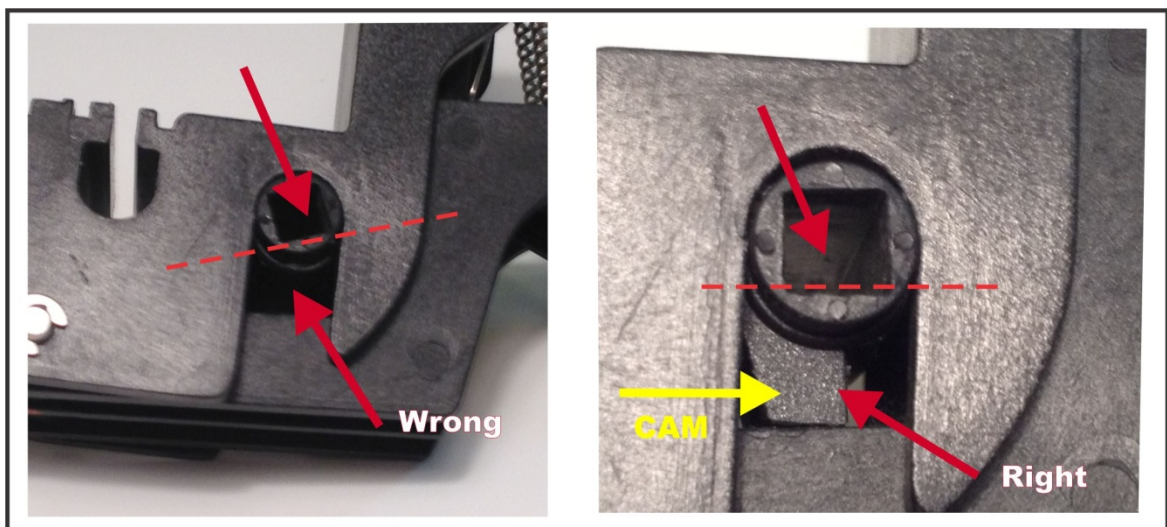

Figure 4
4. You are now ready to install the replacement pinch roller. Be sure the replacement pinch roller is **DIS**-engaged. The CAM must be showing (pointing down), and the square must be perpendicular to the direction of the rail as show in *Figure 4*.